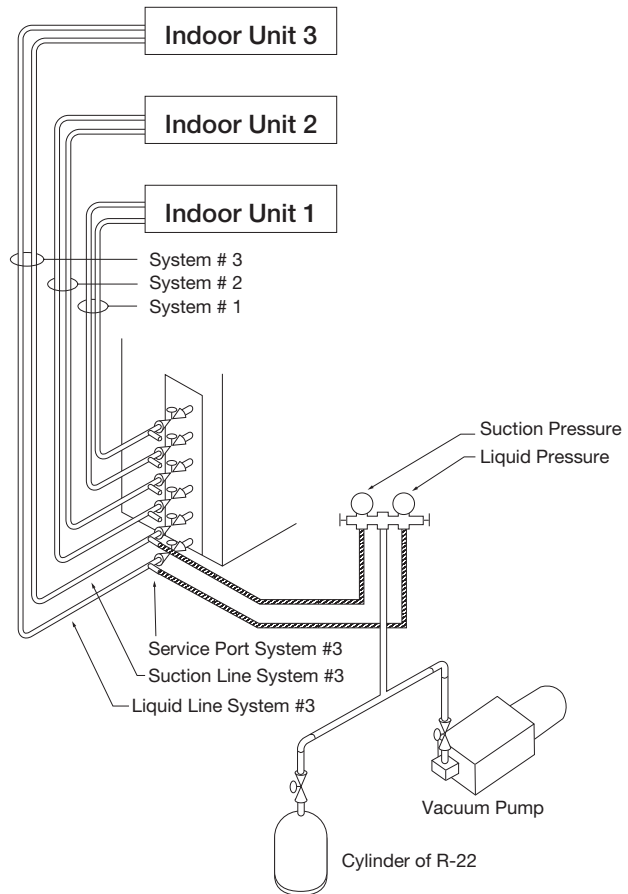

Figure 6
1. Upon completion of installation, evacuate the refrigerant lines and indoor coil (Figure 6).
3. Close off valve to vacuum pump and observe the micron gauge. If gauge pressure rised above 500 microns in one (1) minute, then evacuation is incompleted or system is leaking.